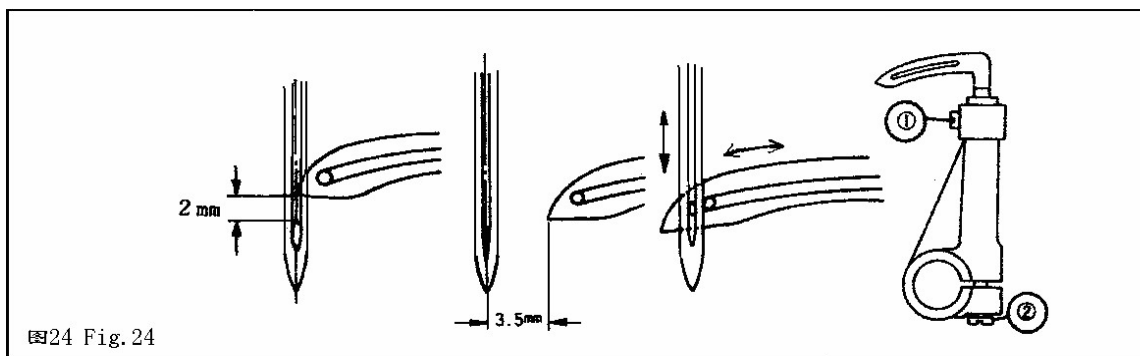

图24 Fig. 24
19. Thread- guiding amount of the looper (refer to Fig.24)
1. The standard value of the vertical distance of the point of the looper away from the upper end of the eye of the needle is 2mm, then the graduation mark on the lower part of the needle bar shall be in line with the lower end of the needle bar bushing, lower.(refer to Fig.24)
3. The relation between the eye of the needle and the eye of the looper is indicated in Fig.24.